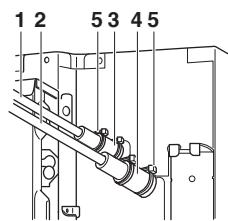

Fig. 12
- Finally, insulate as shown in **Fig. 12** (use the supplied accessory parts)